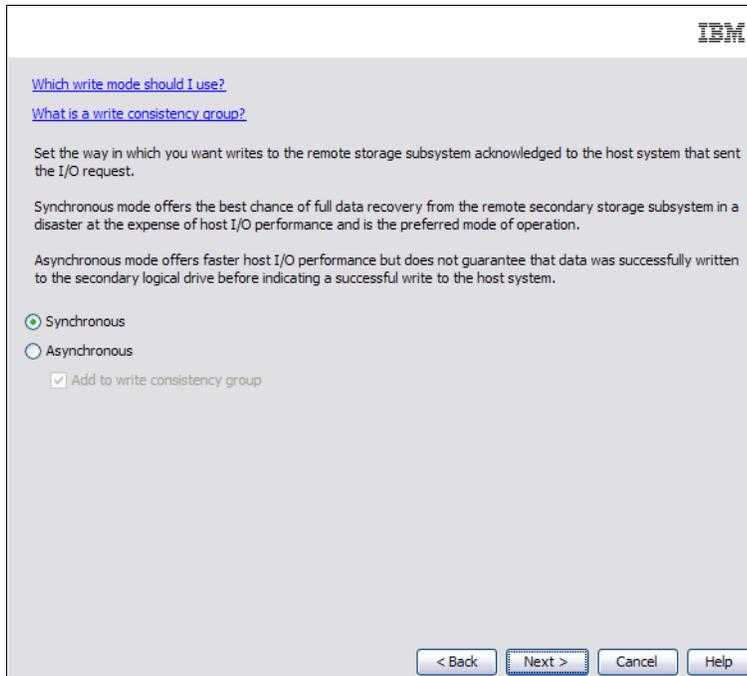

Figure 5-19 Create Remote Mirror: Write mode settings
5. Select the secondary logical drive to be included in the mirrored pair. You can select only one. Click **Next**. The Set Write Mode window (Figure 5-19) opens.